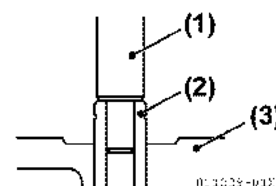
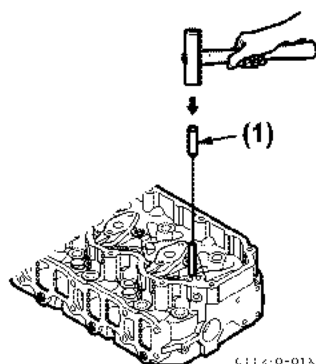

Figure 5-73
Figure 5-74
- Check the inside diameter and finish to the standard inside diameter as required with a reamer (Figure 5-73) and (Figure 5-74).